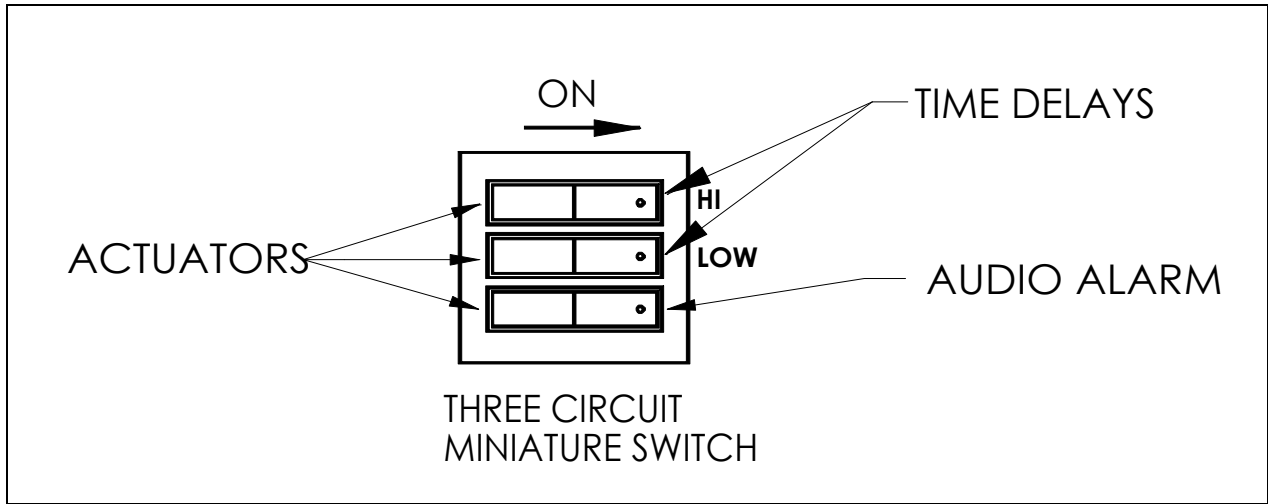

Figure 1: Three-circuit miniature switch.
The AMC-1044-T is a gas monitoring system designed to be used with AMC broad selection of Sensor/Transmitter types. It serves to continuously monitor the target gas (listed in Product Information Section). The monitor comes with the following features (see Figures 1, 2 and 3).
9. THREE CIRCUIT MINIATURE SWITCH: Each actuator on the miniature switch controls a different circuit as shown in Figure 1. If the actuator is set in the UP position, its corresponding circuit is ON. If the actuator is set in the DOWN position, the circuit is OFF.
Once power has been turned on, the GREEN power LED will light. A one-minute time delay eliminates false alarms from occurring during the sensor's warm up period. After this time delay, the unit becomes fully operational. If time delays are required or the audio alarm indicator is not needed, the three-circuit miniature switch can be set accordingly. Refer to Section 3, Item 9 and Figure 1.